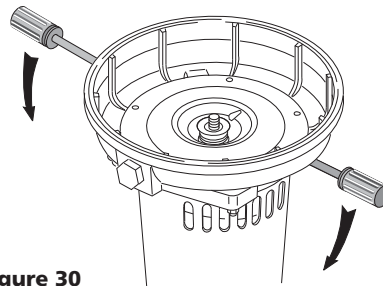

Figure 30
- Unscrew four nuts holding pump back half to motor. Remove rotating half of seal by placing two screwdrivers under back half of pump body and carefully prying up (See Figure 30). Back half of pump body will slide off shaft, bringing seal with it.